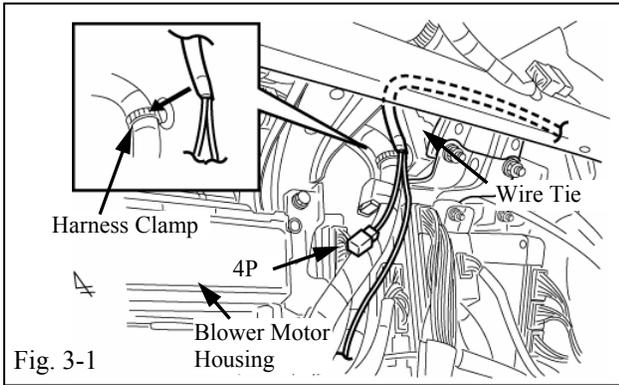

Fig. 3-1
- (a) Route the V2 Harness above the Reinforcement Brace. Align the branch in the V2 Harness with the vehicle Harness Clamp. (Fig. 3-1)